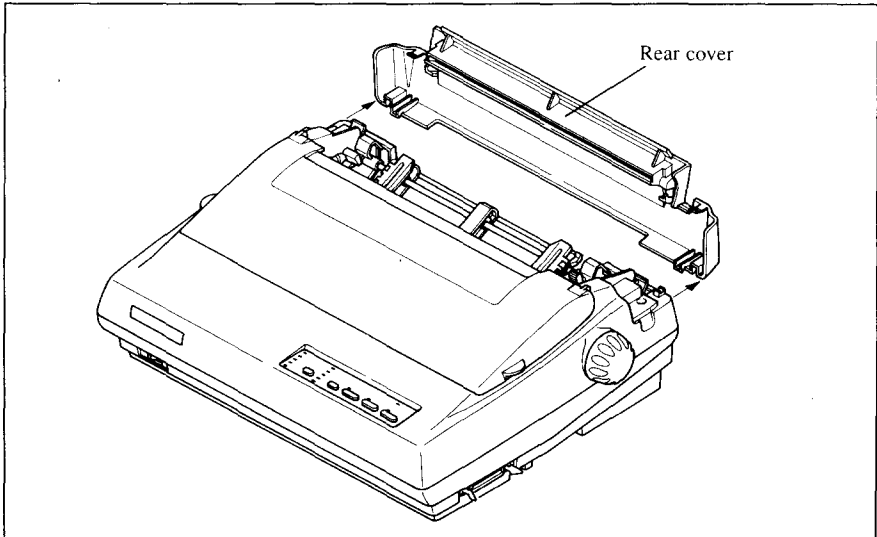

Figure 1-12. Removing the rear cover
5. Remove the rear cover using the two pits on either side, and push backwards as in Figure 1-12.